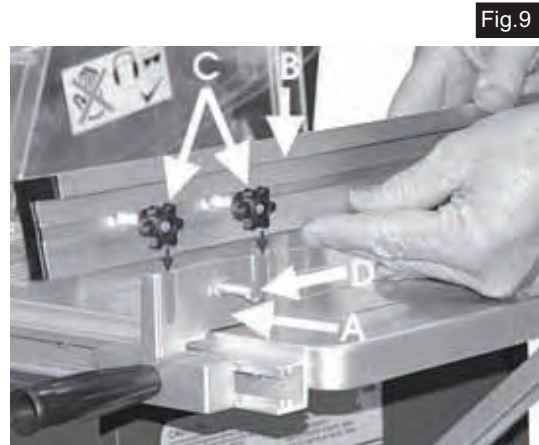

Fig.9
3. Arrange the coach bolts with knobs screwed on a few turns, as shown in Fig. 9 and engage in the slots in the handle assembly, as indicated.